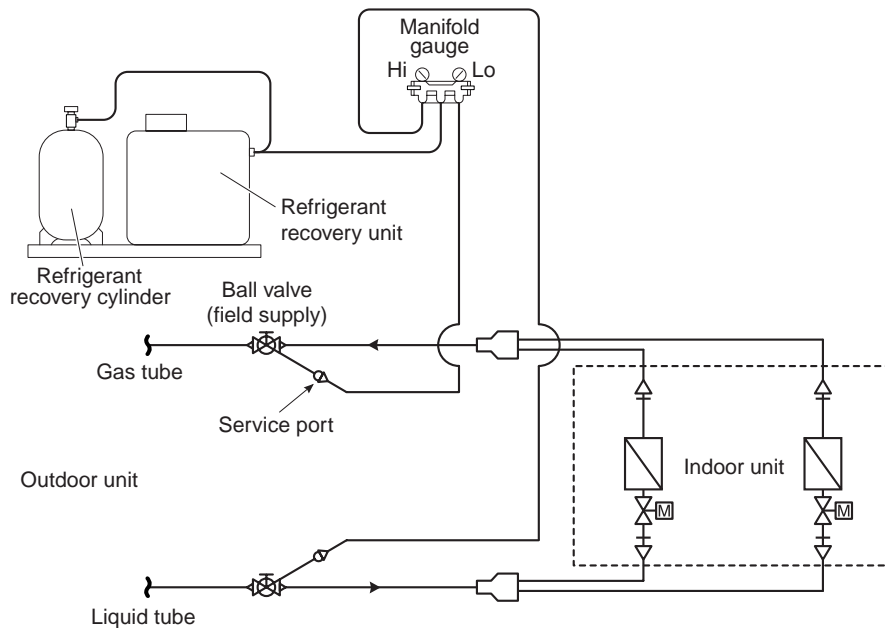

Fig. 3
- (1) If a ball valve with a service port has been provided in the indoor unit as shown in Fig. 3, follow the instructions given in (2) through (6) below. If the service port is instead located in the outdoor side, follow the instructions in "3-2-3. Refrigerant recovery procedures (2)."
- (2) After running the unit in Cooling mode for about 5 minutes as described in "3-2-1. Cooling operation (for all units)," fully close the liquid tube ball valve.
- (3) Run the unit in Cooling mode for 10 to 20 minutes more.
- (4) Fully close the gas tube ball valve, and stop the operation of all units.
- (5) Use hoses to connect the manifold gauge valves, refrigerant recovery unit, and refrigerant recovery cylinder with each other. (Fig. 3) Do each connection quickly to prevent air from entering the tubing.